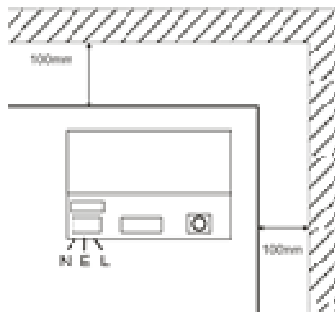

Fig 1.0 Mounting of Power Supply
- 1) Mount securely in correct orientation allowing minimum clearance – see Fig. 1.0